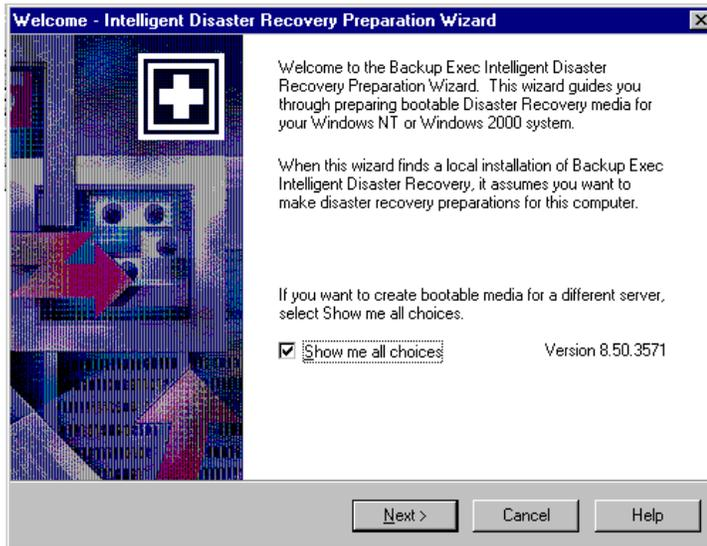

Figure 1: Disaster Recovery Preparation Wizard screen
1. Figure 1 shows the welcome screen that displays for the VERITAS Intelligent Disaster Recovery Preparation Wizard. The software assumes that you want to make disaster preparations for the local machine. Clicking the Show me all choices check box lets you select a different server. Click Next to continue.